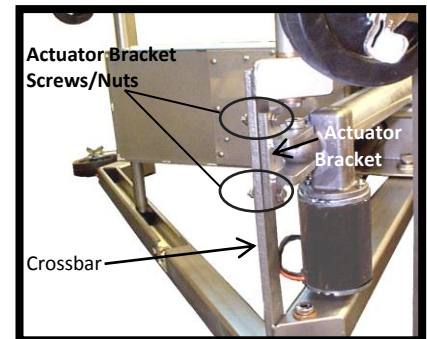
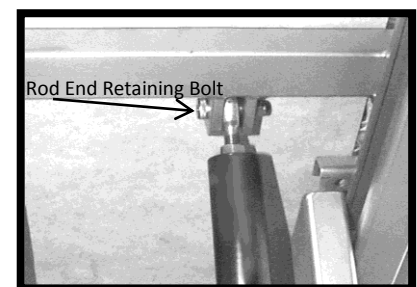

Figure 34: Actuator Bracket screws/nuts
Figure 35: Rod End Retaining Bolt
4. With two 1/2 in. wrenches, remove the two screws/nuts that hold the actuator bracket to the crossbar (Figure 34).
5. With a 9/16 in. wrench and a 1/4 in. hex key, remove the rod end retainer bolt and free the upper end of the actuator (Figure 35).
2. Place the actuator assembly and bracket loosely into the gurney, oriented as shown in Figure 34. The bracket should be at the crossbar, the actuator assembly should pass through the opening in the large scissor leg, and the rod end should be close to its upper mounting point (Figure 35).
10. Mount the actuator bracket to the crossbar with the two screws/nuts (Figure 34). **Note:** If necessary, adjust the length of the actuator assembly by using the raise and lower switches.